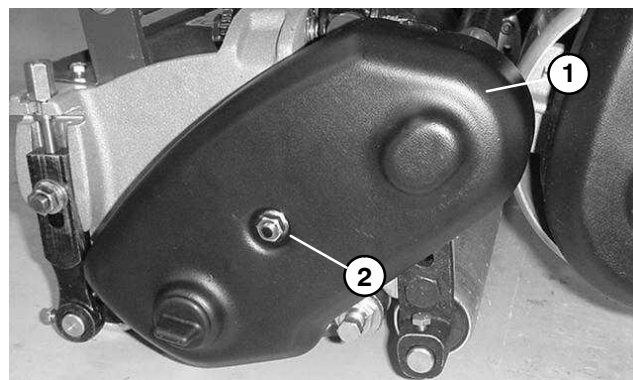

Figure 8
A. Remove flange nut and belt cover (Fig.8) to expose drive belt.